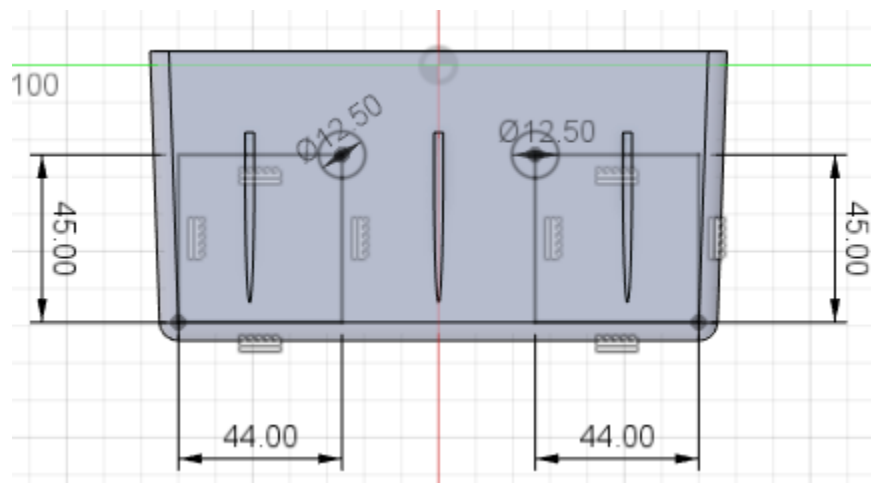

Figure 26: CAD rendering of the side of the pelican case showing hole placements with measurements in mm.
2. Use the drill and drill bit to drill two 1.25 cm diameter holes in the right side (when looking at the pressure valve) of the pelican case at 4.5 cm from the bottom and 4.4 cm from each side (Figure 26). Hole locations do not need to be exact, but ensure that the cable gland nuts will sit on top of the vertical ridges inside, and centers will be above the flowmeter to allow for each cable to pass above the flowmeter. Alternatively, the holes could be drilled in the front of the box to align with the connections for the flowmeter.